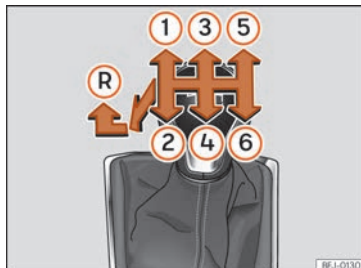

Fig. 164 Gear shift pattern of a 6-speed manual gearbox
The position of the gears is indicated on the gearbox lever » **Fig. 164**.
- With the gearbox lever in neutral, push it downwards, move it to the left as far as it will go and then forwards to select reverse » **Fig. 164 R**.